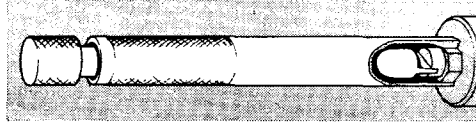

Fig. 15 Tuning tool
14. **Tuning tools.** A wide variety of special tuning tools is available. Each is designed for alignment of a particular radio set. They are basically a combination of a screwdriver and a box spanner (Fig. 15).